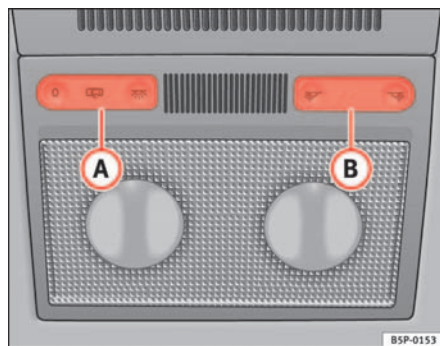

Fig. 80 Detail of the roof:
The switch ⇒ fig. 80 (A) is used to select the following positions:
Turn the knob to the position O ⇒ fig. 80 .